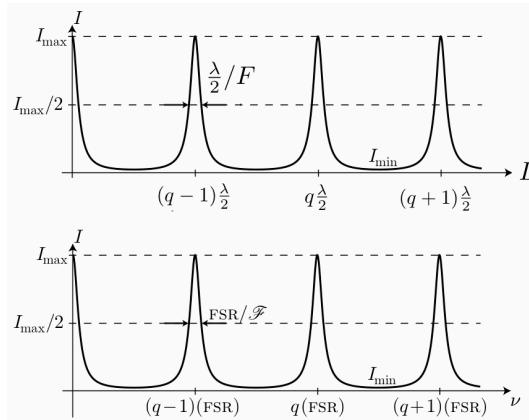

Figure C.3: Transmission of cavity.
in the length  $L$  of the cavity with period  $\lambda/2$ . Figure C.2 shows a schematic of these cavity resonances and how they change when the cavity length is changed. The shape of the cavity transmission is shown in Fig. C.3.
Fig. C.3 shows the transmission (or intensity inside the cavity) as a function of the cavity length given a *fixed laser frequency* and as a function of the input frequency  $\nu$  given a *fixed cavity length*  $L$ . From this, it is clear that the cavity finesse can be obtained experimentally by taking the ratio of the cavity periodicity and dividing this by the width of the transmission peaks.
**The main point** here is that different transverse modes are resonant with the cavity at slightly different frequencies  $\nu_q$ . Equivalently, a laser at fixed frequency will resonantly excite different modes of the cavity at slightly different cavity lengths (which control  $\nu_{\text{FSR}}$ ). This is why in Fig. C.3 we see a series of distinct transmission peaks at slightly different cavity lengths occurring periodically as the cavity length is increased by  $\lambda/2$  (or one free spectral range). Each distinct peak corresponds to a different  $\text{TEM}_{l,m}$  mode and it is excited when the cavity length is just right so that the laser frequency is equal to the cavity resonance frequency for that mode given by Eqn. C.11.